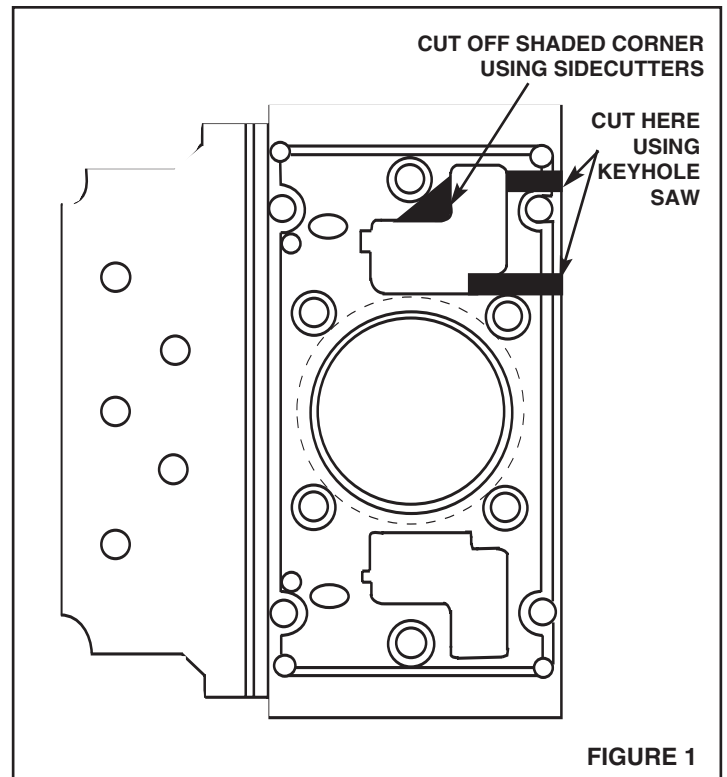
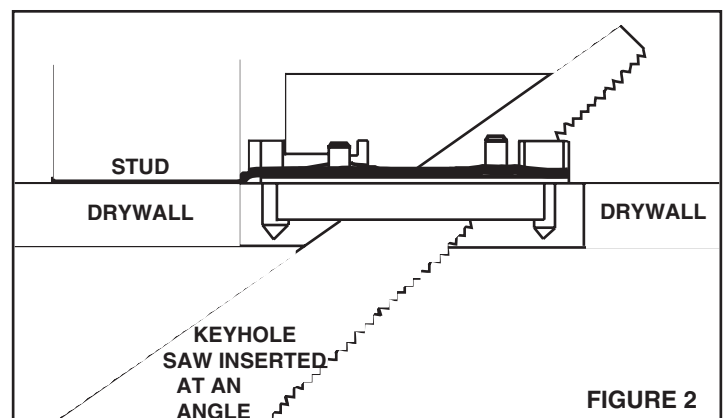

FIGURE 1
FIGURE 2
2. Using the drawing as a guide, cut the shaded area away using sidecutters (Fig. 1). Cut the side wall of plastic away between the two shaded slots (Fig. 1), using the keyhole saw inserted at an angle as shown (Fig. 2). Hint: When cutting the mounting plate, only saw 90% of the first cut, then proceed to the second cut. Leaving a bridge of plastic on the first cut will maintain support, making the second cut much easier.